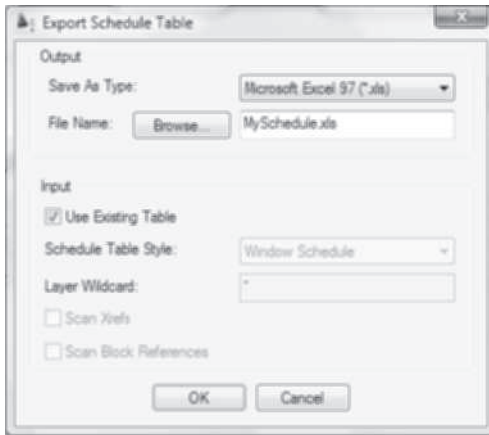

FIGURE 11.75 *Export of Myschedule Table dialog box*
2. Select **Microsoft Excel 97 or 2003** as the **SaveAs Type** and type the name of the data file in the **File Name** field of the **Export Schedule Table** dialog box as shown in Figure 11.75. Click the **Browse** button and specify your student directory.